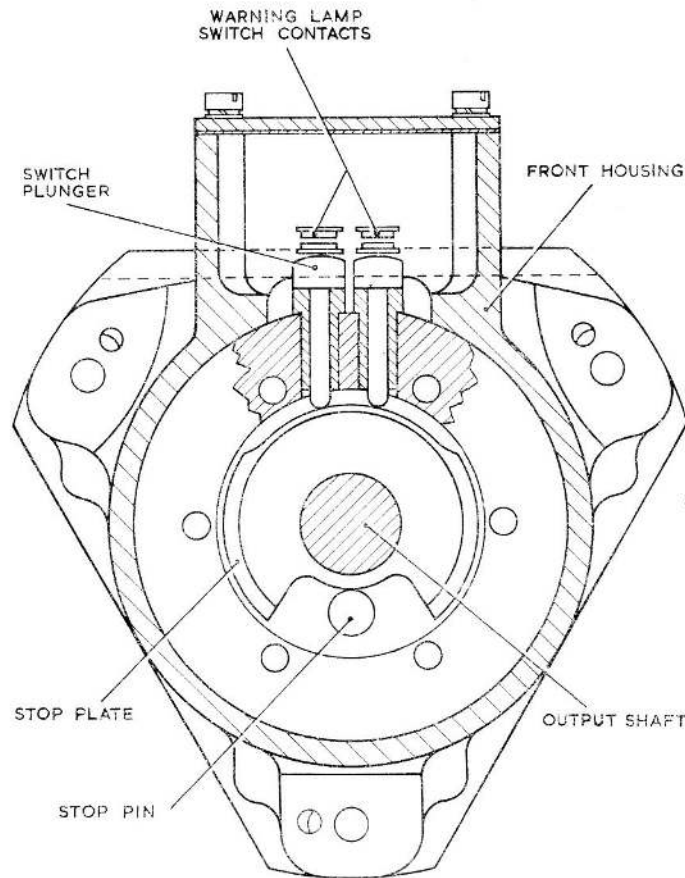

Fig. 4. Output shaft cam profile
8. At the opposite side of the stop plate is a cam formation, against which bear two spring-loaded plungers (*fig. 4*). As the output